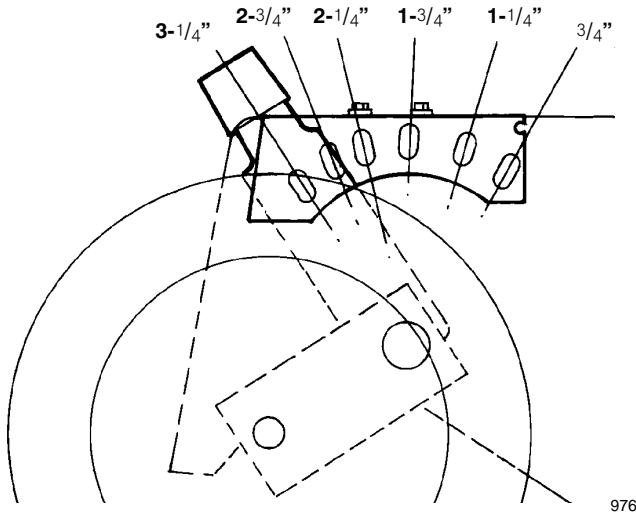

Figure 10
- Grass grows at different rates at different times of the year. In the heat of the summer, it is generally best to cut grass at the 1-3/4", 2-1/4" or 2-3/4" height-of-cut settings (Fig. 10). Only about 1/3 of the grass blade should be cut off. Cutting below the 1-3/4" setting is not recommended unless grass is sparse or it is late fall when grass growth begins to slow down.
The height-of-cut is adjustable from approximately $\frac{3}{4}$ to $3\frac{1}{4}$ inches (19 mm to 83 mm), in $\frac{1}{2}$ inch (12.7 mm) increments (Fig. 10). Moving height-of-cut adjuster forward raises height-of-cut.